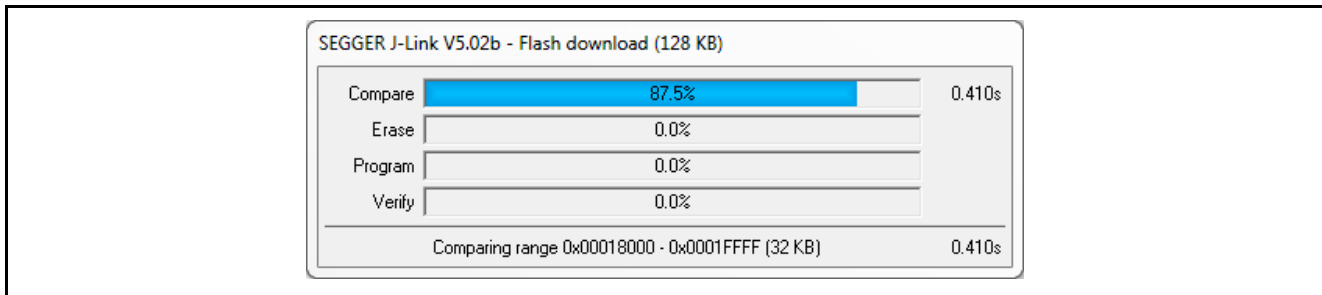

Figure 7. J-Link downloading
5. Double-click Program_AE_CAP1_S3A7_BWS_App.bat in the files (see Figure 7).
Note: If the update J-Link firmware dialog box displays, it is recommended that you click **Yes**. A programming failure may occur if you update the firmware. If this occurs, double-click the .bat file again. See Figure 7 for details.
5. Double-click Program_AE_CAP1_S124_MC_App.bat in the files. See Figure 7 for details.